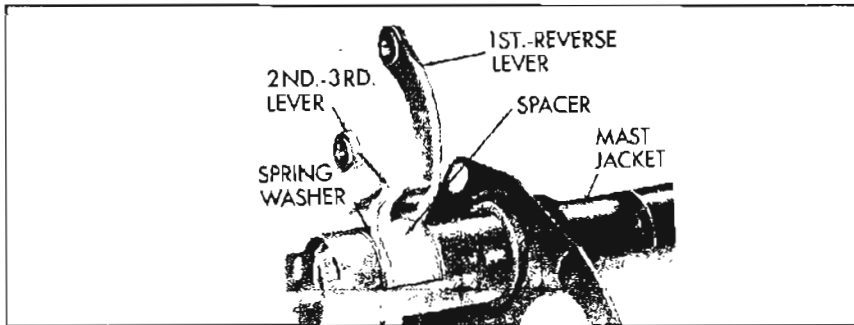

Figure 8-75—Removal of Shift Levers, Spacer, and Spring Washer
2. Lift out from lower end of mast jacket spring washer, 1st and reverse lever, spacer, and 2nd and 3rd lever. See Figure 8-75.